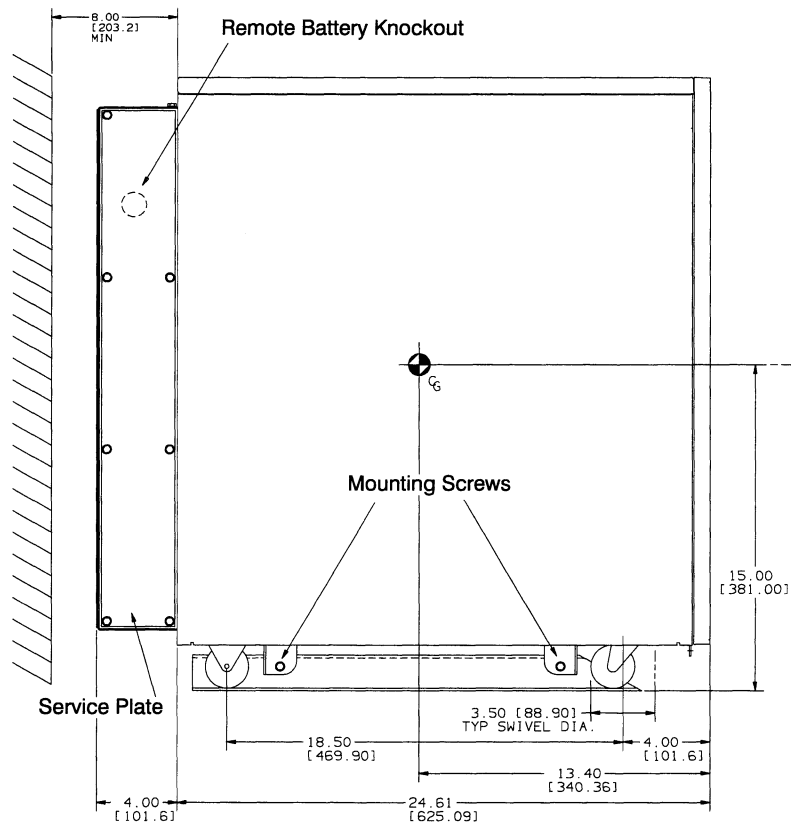

Figure 23. Remote Battery Access
2. Remove the knock-out for the conduit as shown in Figure 23.